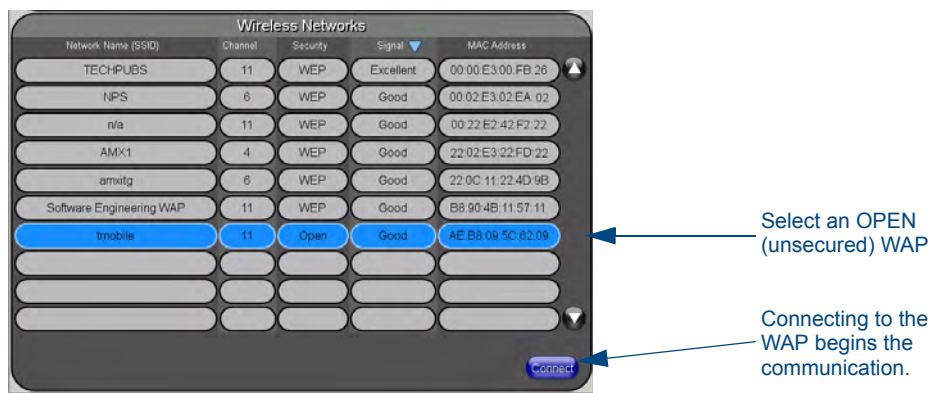

FIG. 18 Site Survey of available WAPs (Unsecured WAP shown selected)
- Automatically filling it by pressing the **Site Survey** button. From the *Site Survey* page, choosing an **Open** WAP from within the *Site Survey* page and then pressing the **Connect** button at the bottom of the page (FIG. 18).